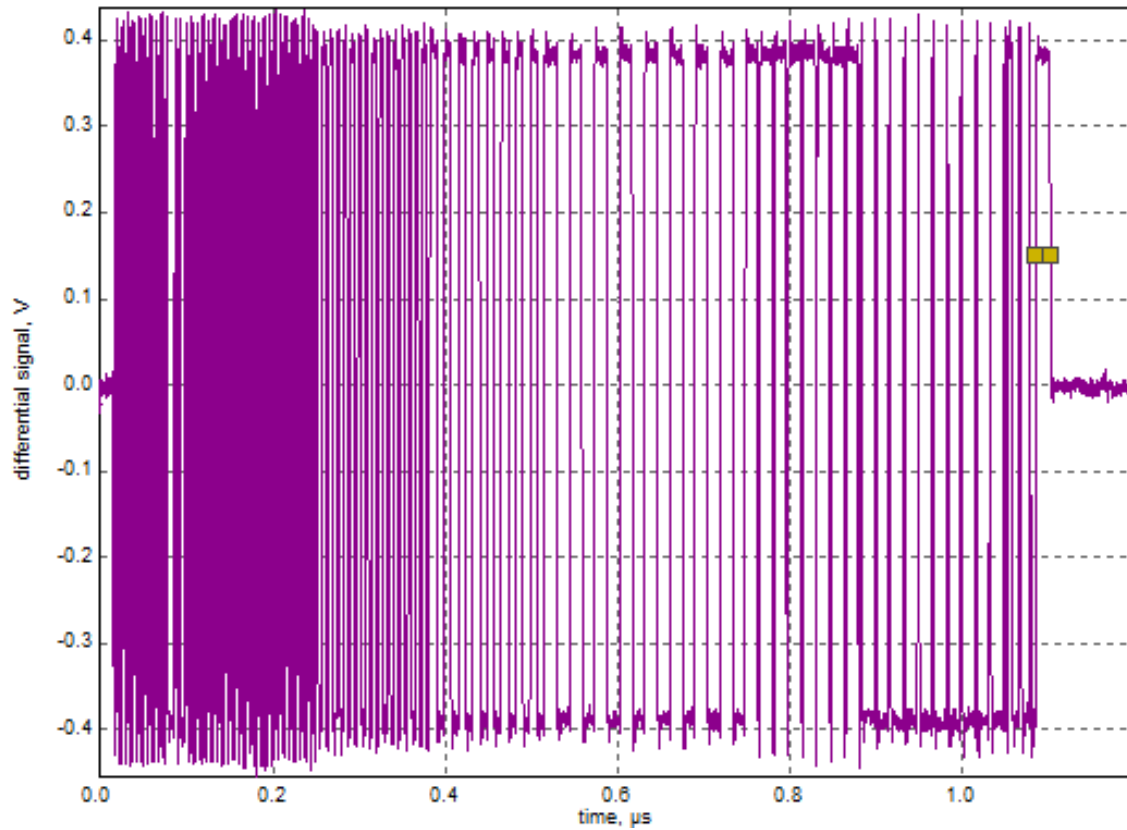

Figure 64. Host HS test packet
9. You should see the transmitted test packet on the oscilloscope as shown in Figure 64.